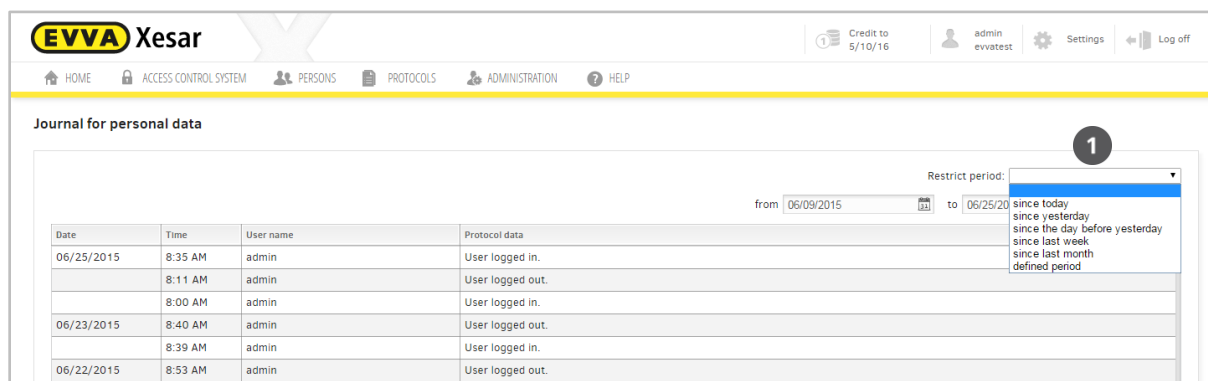

Figure 58: Filtering journal entries
Click the drop-down list in the **Filter** ❶ (Figure 58: Filtering journal entries) section and select the desired period to restrict the output. Click the last item in the drop-down list to activate the calendar function.